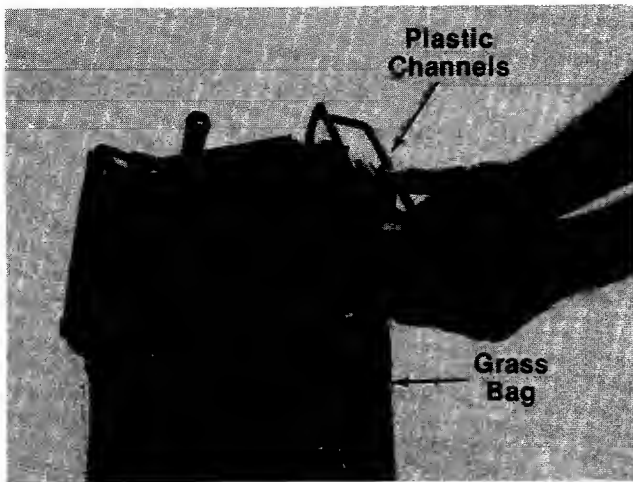

FIGURE 16.
3. Secure bag to frame by slipping plastic channels on bag over frame. See figure 16.